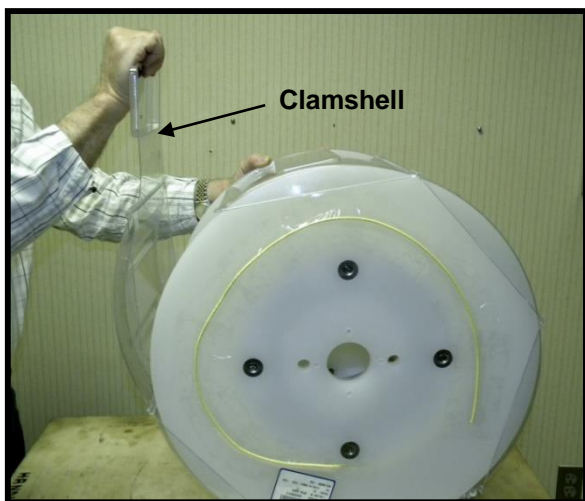

Figure 19
9.1 Remove the plastic protective cover (Clamshell) "Protective Wrapping" from the fiber reel. Do Not cut, damage or discard the protective cover. Be sure you Save it for re-use during fiber reel storage. **See Fig. 19.**